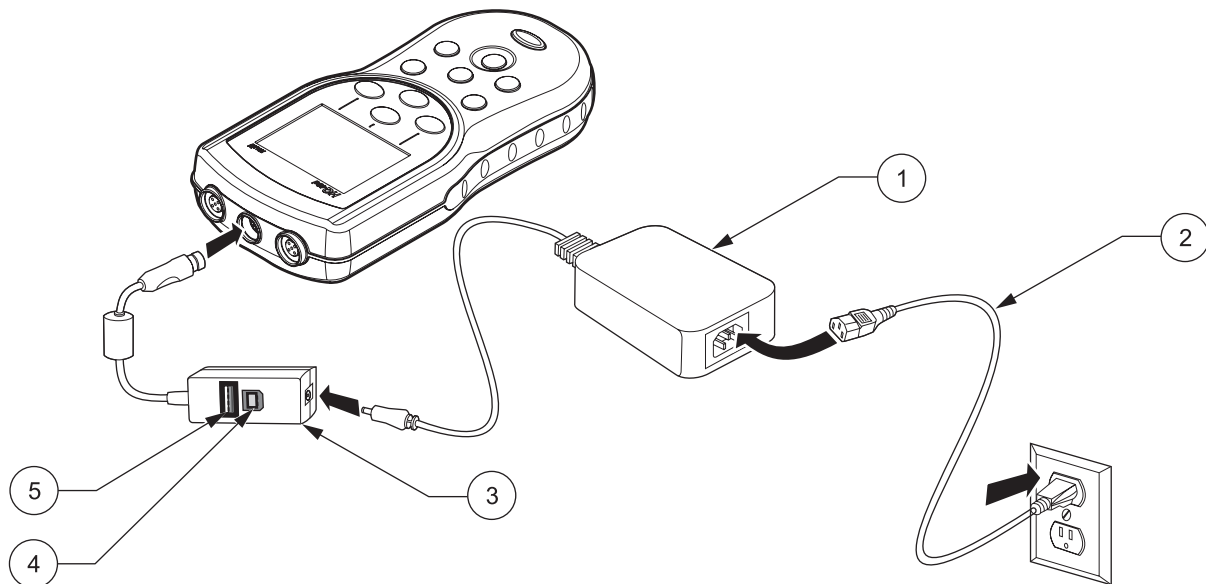

Figure 6 USB/DC Power Adapter Connections for Data Transfer
All meters can be powered by AC power using a power supply, adapter, and cord. The HQ40d meter ships with an AC-DC power supply, a USB/DC power adapter, and a power cord (see Figure 6 on page 17). The USB/DC power adaptor allows the meter to transfer data to a computer or flash memory stick (section 3.5 on page 16).
Data can be transferred to a PC, printer, or flash memory stick by using the USB/DC power adapter. Refer to Figure 6 for USB/DC power adapter connections.
5. Turn on the instrument and plug in the desired USB device (refer to Figure 6).